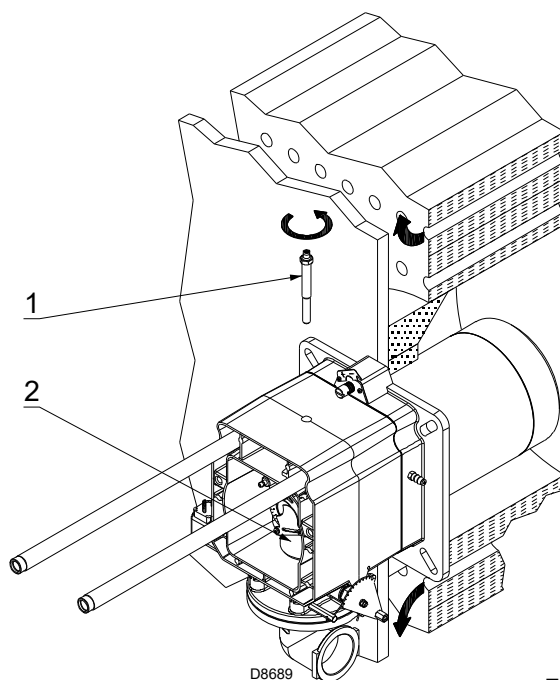

Fig. 12
- remove the screw 1)(Fig. 12);
- take out the inner part 2)(Fig. 12) of the head, and then calibrate them.
At this point of the installation, the combustion head is fixed to the boiler as shown in Fig. 12, page 15.